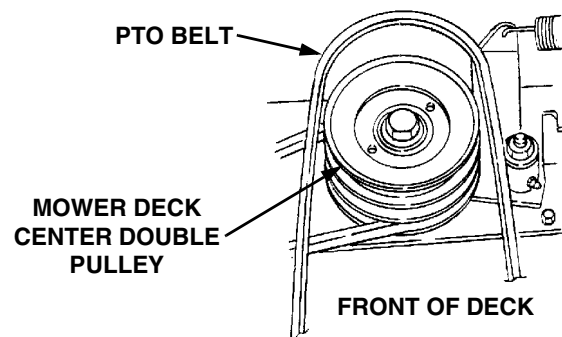

Figure 37
16. Working from the left/rear of the mower deck, install the rearward end of the PTO belt on the upper pulley of the deck center double-pulley (Refer to Figure 37). Ensure that the narrow side of the belt engages the groove of the upper pulley, and that there is no more than a 1/4 twist in the belt between the front pulleys and the double pulley.